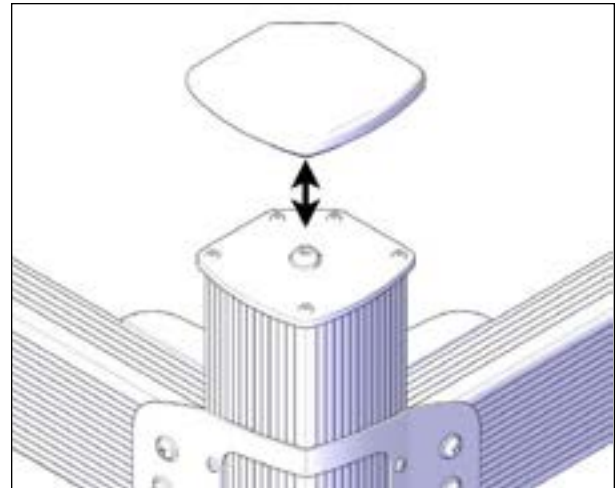

FIGURE 88: RUBBER CAP REMOVAL
2. Remove rubber cap on top of each post see Figure 88.